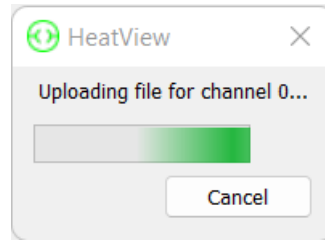

Figure 117: Recovering Chart Data - Uploading File Dialogue window
6. This process should open the 'Uploading file for channel X' dialogue window shown in Figure 117 on the next page. It should calculate how many points of data it needs to recover and then visibly show progress of the download. If this window freezes, close it, and the HEAT VIEW computer application and power cycle the controller for at least 30 seconds and reattempt the recovery.